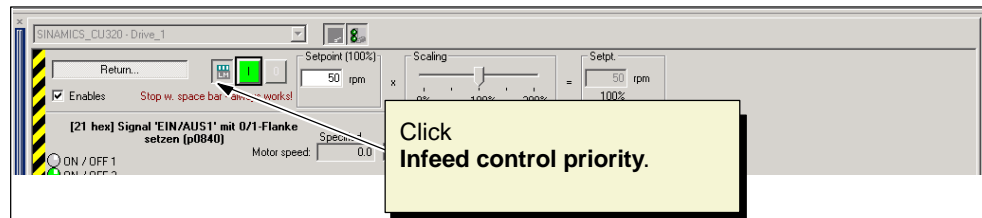

Fig. 4-13 Infeed control priority
11. Click **Infeed control priority** (see Fig. 4-13).